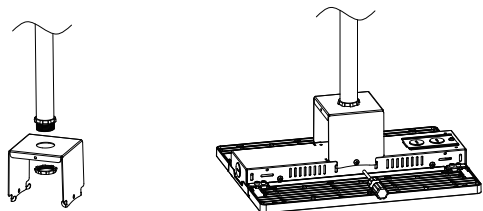

Figure 2
- Step1.Mount the bracket on 3/4"NPT (Figure 2);